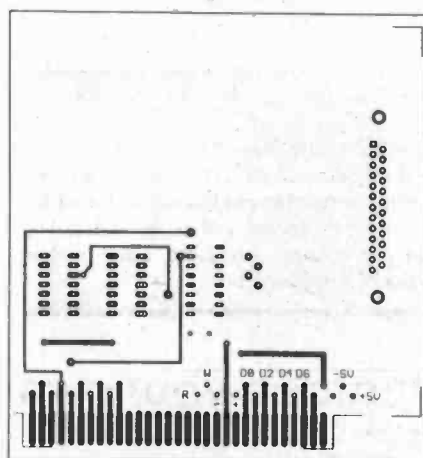
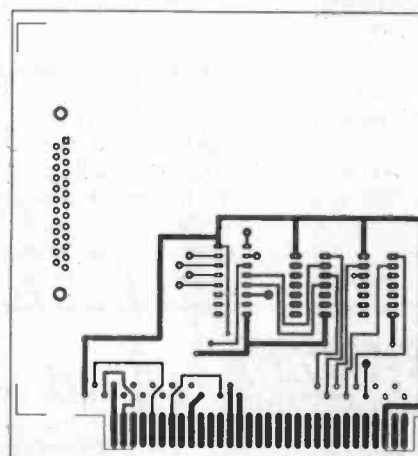

Fig. 1. The top (component) side of the PC prototyping card (1/2 scale). Only the component area of the board is shown.
Fig. 2. The underside track pattern of the prototype board. Only one end of the board is shown.
**A**S EXPLAINED last month, a technical problem with my printed circuit design program prevented details of the p.c.b. for the improved PC prototype card from appearing in that issue. As promised, details of the board are included in this month's *Interface* article. Fig.1, Fig.2, and Fig.3 respectively show the top side, underside, and component overlay. This is basically just the original (passive) PC prototyping card with the four output address decoder (as described last month) added on to it.